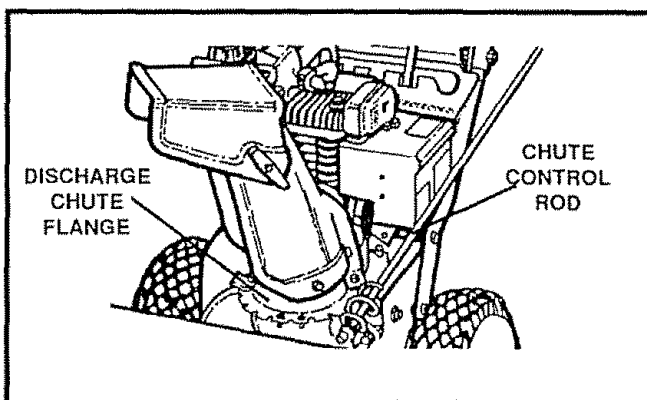

FIG. 17
- Lubricate the flange on the discharge chute every five (5) hours during use and before storage (See Fig 17)
- The chute control rod, used to change the direction of the snow discharge, needs to be lubricated frequently and before storage (See Fig 17)